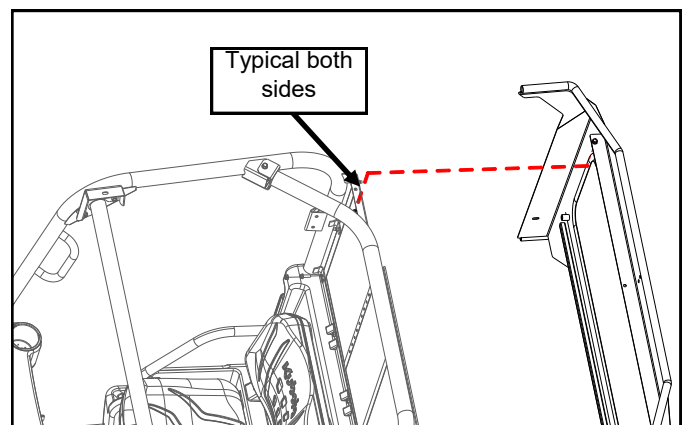

Fig. 3
3. With the help of an assistant, position the rear panel behind the ROPS and insert the (2) pre-installed “studs” in the top mount of the rear panel into the holes in the top flange of the cargo screen. (see fig. 3)